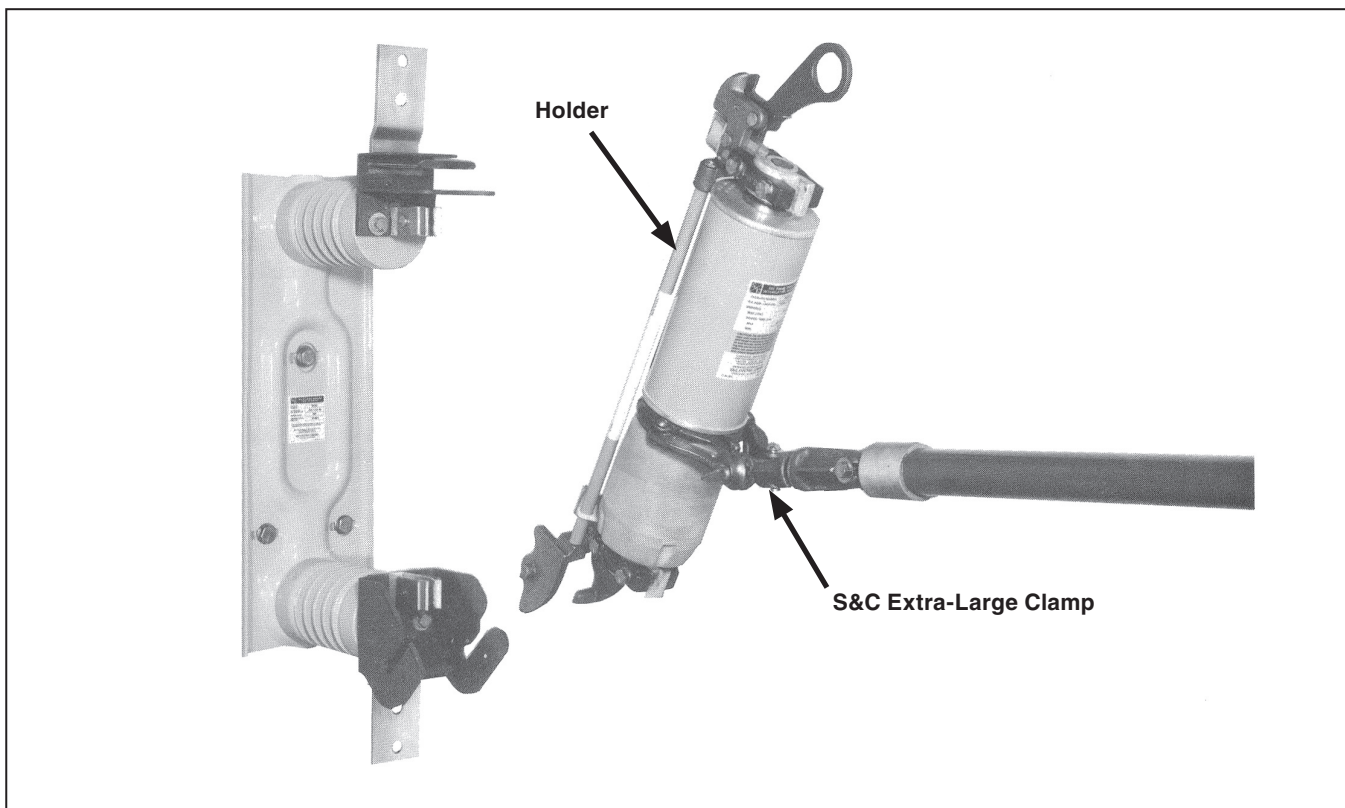

Figure 4. Installing (or removing) the holder using the S&C Extra-Large Clamp.
STEP 1. When handling holders using a universal pole equipped with an S&C Extra-Large Clamp, attach the clamp to the pole, as shown in Figure 4. However, because the most advantageous positioning for the extra-large clamp depends on the elevation of the fuse mounting relative to the operator, the handling tool should be adjusted as required to accommodate conditions.
- (b) Securely attach the handling tool at the location shown in Figure 4. Make certain the handling-tool jaws are fully tightened before attempting to lift the holder.
- STEP 2.** Use a universal pole equipped with an S&C Grappler tool or an S&C Extra-Large Clamp▲ to remove holders from mountings for fuses rated 4.16 kV and 13.8 kV. See Figure 4 on page 8. Holders for fuses rated 25 kV should be removed by hand, provided the mounting has been de-energized and properly grounded in accordance with local operating practices.
When handling holders using a universal pole equipped with an S&C Extra-Large Clamp, attach the clamp to the pole as shown in Figure 4 on page 8. However, because the most advantageous positioning for the extra-large clamp depends on the elevation of the fuse mounting relative to the operator, the handling tool should be adjusted as required to accommodate conditions:
- Securely attach the handling tool at the location shown in Figure 4. Make sure the handling-tool jaws are fully tightened before attempting to lift the holder.